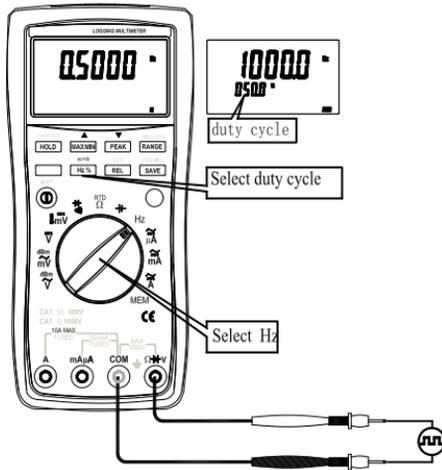

Figure 3-12. Frequency and Duty Cycle Measurement
***Measuring Frequency and Duty Cycle (See Figure 3-12)***